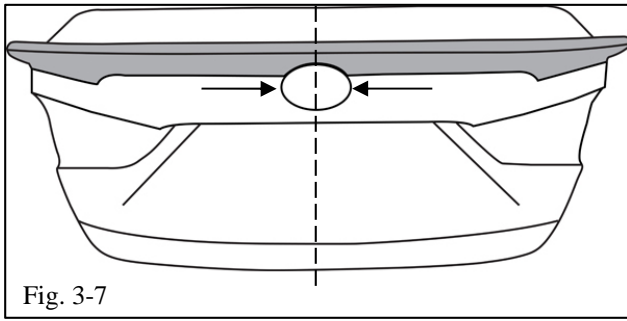

Fig. 3-7
- ⚠ (l) Prior to pulling the remaining tape liners, center the spoiler on the deck lid, making sure that the crescent of the spoiler fits evenly around the oval logo (Fig. 3-7).